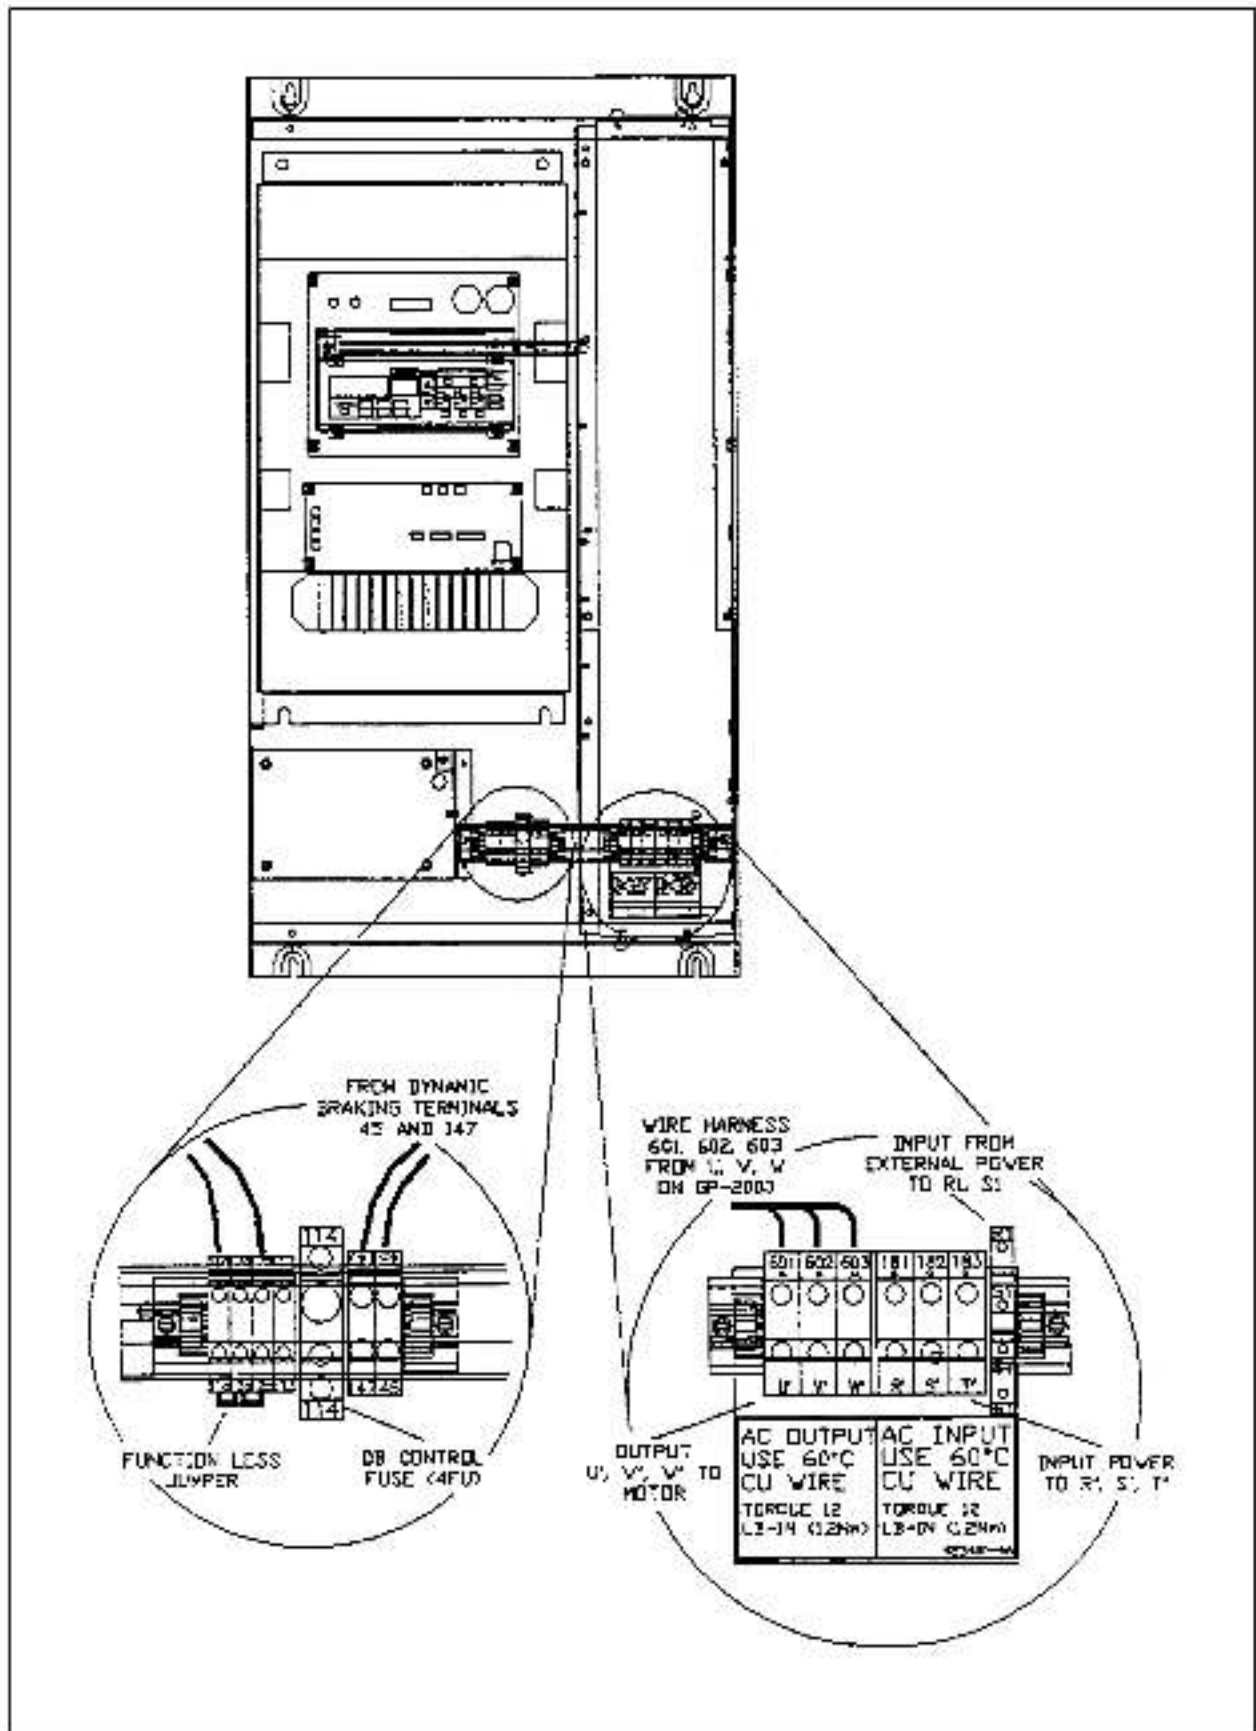

Figure 5. Expanded Cabinet DIN Rail Terminal Board Wiring Locations.
2. Connect user-supplied protected input power to terminals R', S', and T'. Refer to Figure 5 for location.
3. Route user-supplied 24 VDC interlock and function loss wiring (if used) through a center opening (24 VDC control) in the bottom of the Expanded Cabinet. Remove the factory-installed jumper across terminals 11A and 12A. Refer to Figure 5.
2. Connect motor leads to terminals U', V', and W' on the terminal board. Refer to Figure 5 for wiring detail.